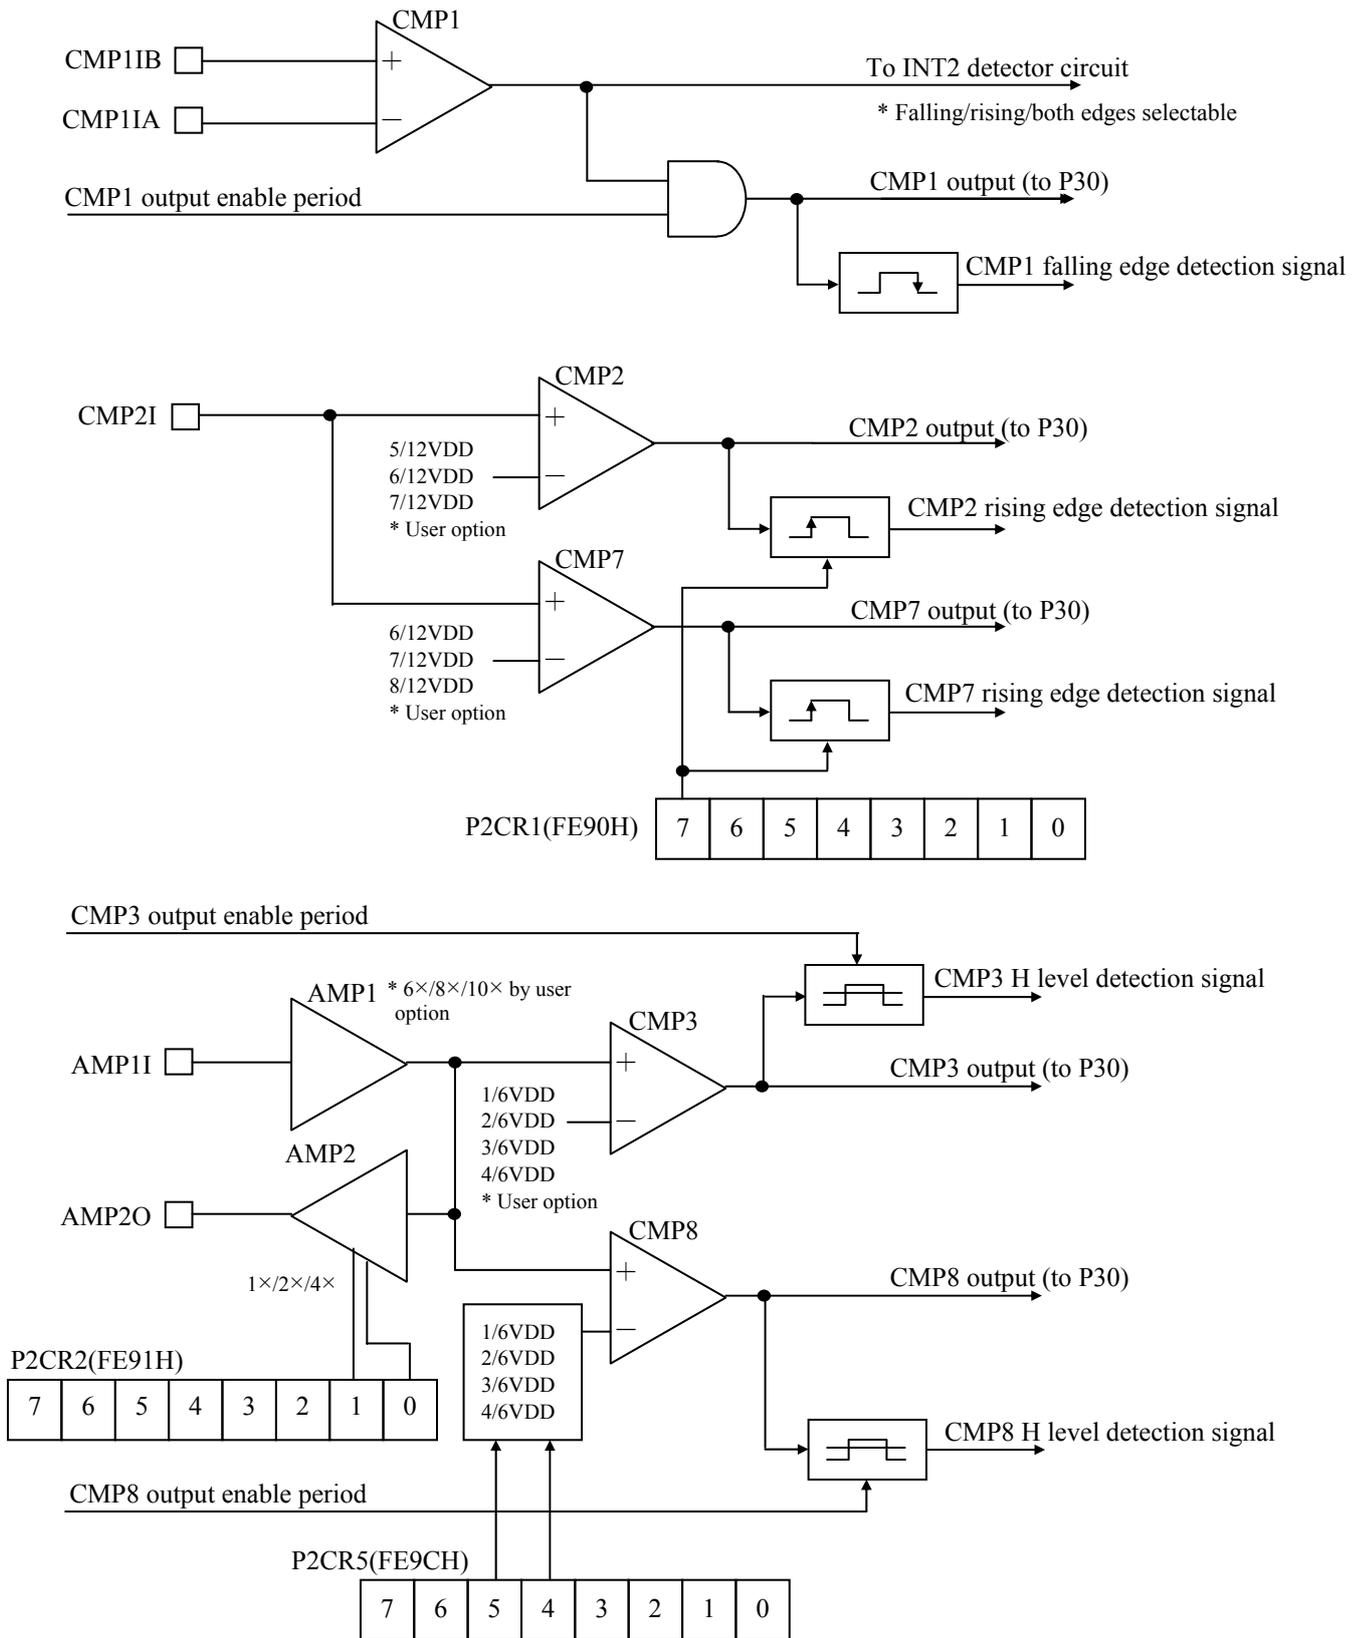
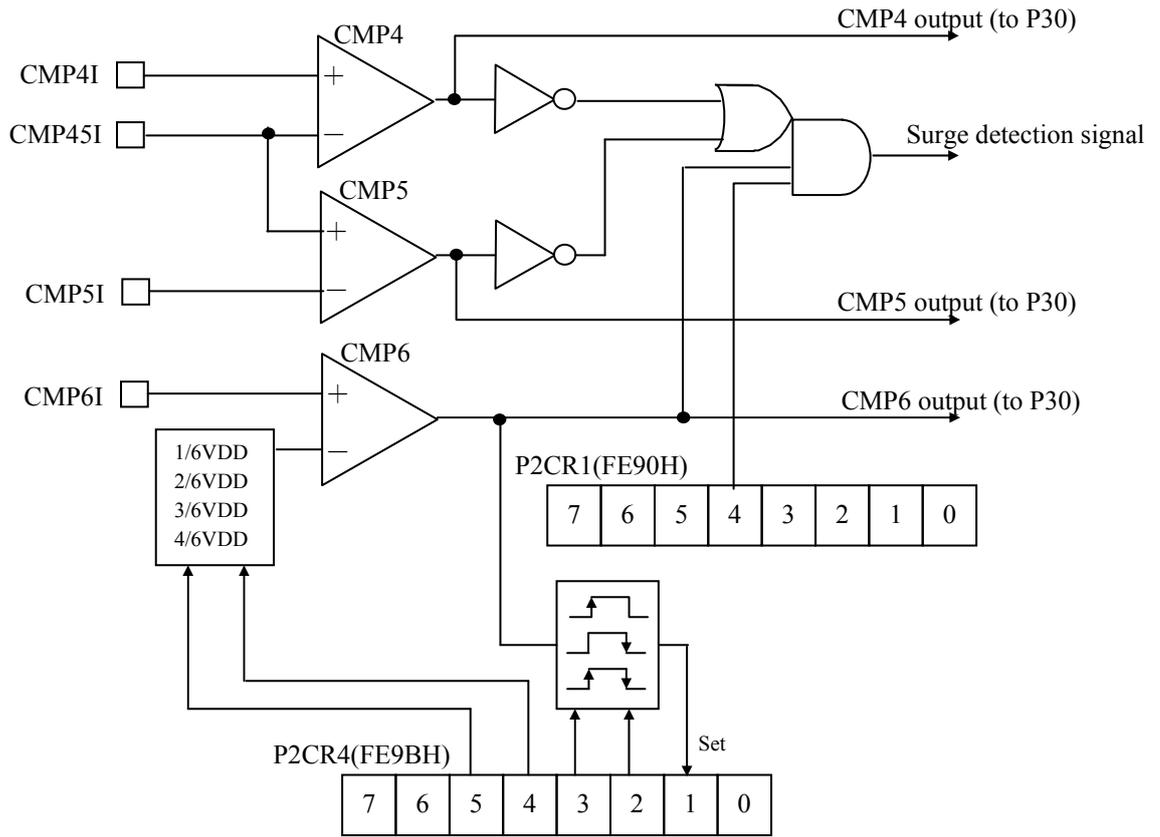

Figure 3.10.1 Amplifier/Comparator Block Diagram
Figure 3.10.2 Surge Detector Circuit Block Diagram
* See Figure 3.10.1, "Amplifier/Comparator Block Diagram" and Figure 3.10.2, "Surge Detector Circuit Block Diagram."